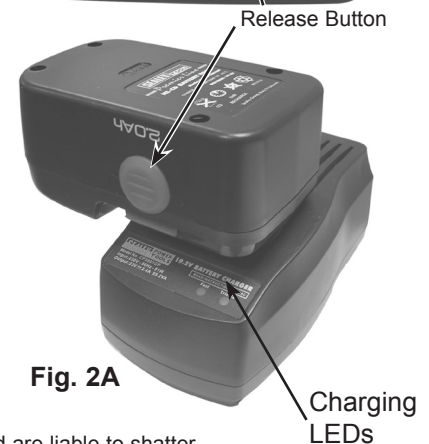

Fig. 2A
3.1.2 To insert the battery pack, align the tongue in battery pack with the groove in the wrench housing and push into place (Fig. 2A).